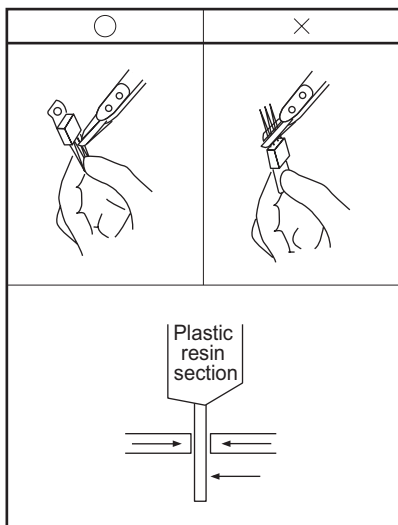

Figure 6.10 Bending External Leads
- 1) When bending external leads, fix the base of the lead in place before bending the lead so that no stress is applied to the device body (See Figure 6.10).